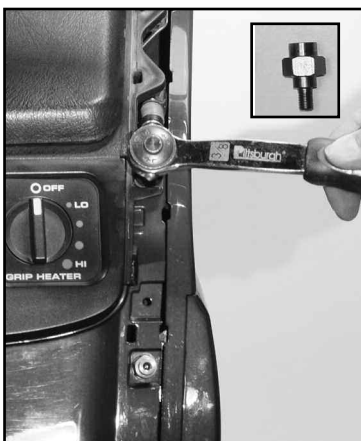

Figure 3
4. Apply a small amount of Thread Lock to the threaded side of the Standoffs. Replace the screws removed in Step 3 with these threaded fasteners. Tighten securely. **4 ft/lb (5.4Nm) (1/2" Socket, Thread Locker) Figure 3**